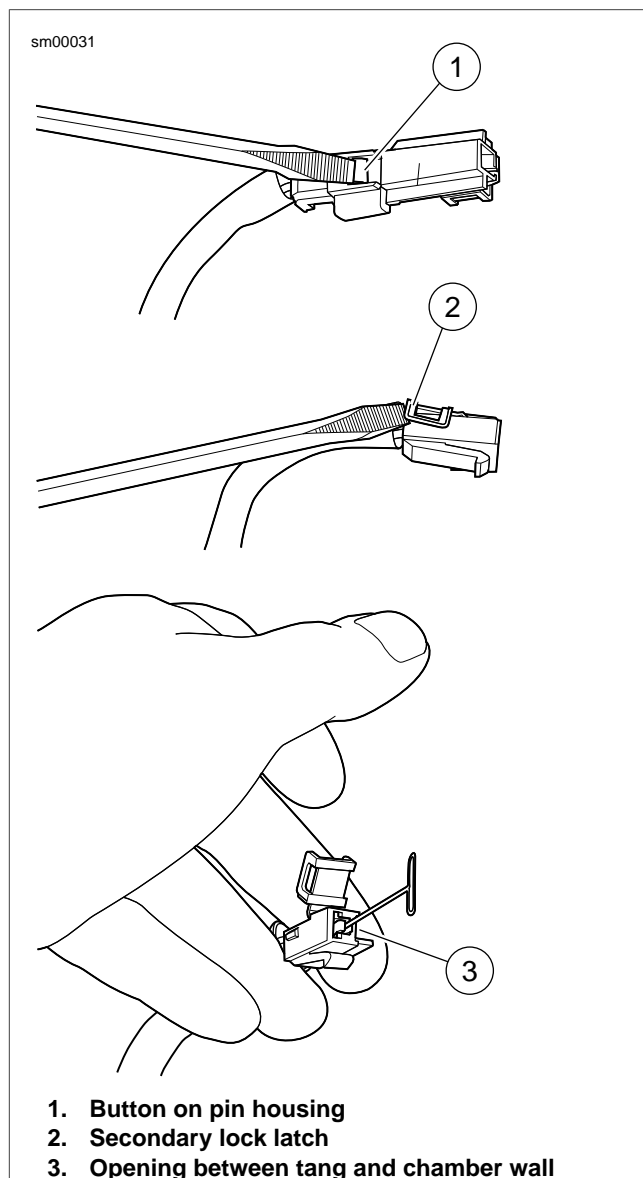

Figure A-29. 480 Metri-Pack Connector: Remove Socket Terminal
See Figure A-29. Using small flat blade screwdriver, depress button (1) on pin housing (red wire) side of the connector and pull apart the pin and socket housings.
1. See Figure A-29. Bend back the latch (2) slightly and free one side of secondary lock, then repeat to release the opposite side. Rotate the secondary lock outward on hinge to access terminal in chamber of connector housing.
2. On the mating end of the connector, note the tang in the square shaped opening centered next to the terminal. Gently insert the point of a stick pin or large safety pin into the opening (3) between the tang and the chamber wall until it stops.